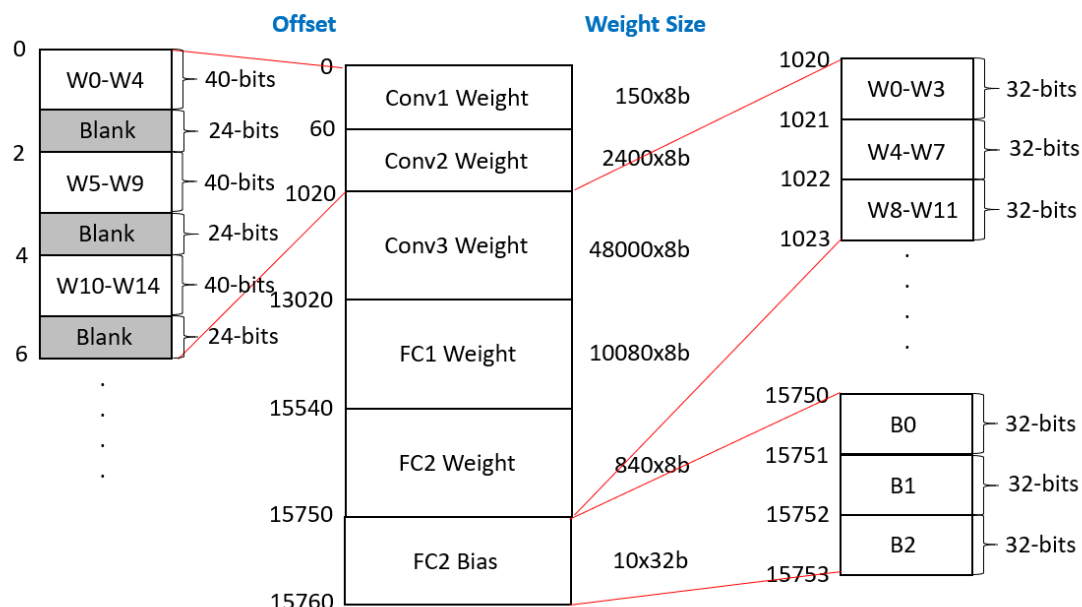

Figure 1: Layout of weight SRAM.
3. Figure 1 shows the layout of the weight SRAM. In the Conv1 and Conv2 weight layers, we store five 8-bit weights for every two addresses (40 bits for the weights and 24 bits for blank data). It is possible to access five weights in one clock cycle. Note that the Conv3 layer can be treated as a fully-connected layer. For the Conv3, FC1, and FC2 weight layers, we store four 8-bit weights at each address. For FC2 biases, one 32-bit bias is stored at every address. **In this homework, you only need the FC1's weights, which are located from offset 13020 to offset 15539.**
- We provide golden data for you to validate your design, which has been preprocessed to match Figures 1 and 2. We recommend that you trace and understand the testbench code, as you will need to do the data preprocessing yourself in the upcoming Homework 3.